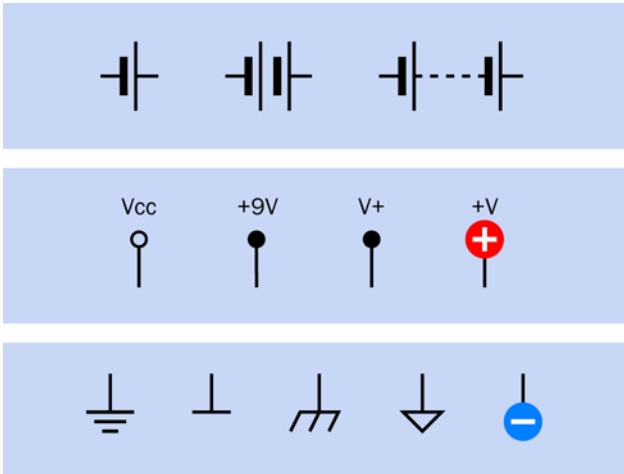

Figure 2-42 Various ways to show positive and negative DC power in a circuit.
2. Power Supply. The power supply for a DC (direct-current) circuit can be indicated in several ways. The top section of Figure 2-42 shows symbols for a battery. A short line indicates the negative end, while a longer line indicates the positive end. Traditionally, a single pair of lines represented a single 1.5-volt cell, two pairs indicated a 3-volt cell, and so on. But when circuits used high voltage with vacuum tubes, the person drawing the schematic would usually show a dashed line between cells instead of drawing dozens of them in a row.
A battery symbol may still be used in a simple schematic, but more often positive and negative DC power is indicated by separate symbols, shown in the center section and the bottom section of Figure 2-42. Positive is applied in one location of a circuit labelled V_{cc} , V_{CC} , or $V+$, or $+V$, or $+V$ with a number added to indicate the
The negative side of the power supply can be shown with any of the symbols in the bottom section of Figure 2-42. It may be referred to as “negative ground” or simply “ground.” Because many parts of a circuit may share a negative potential, multiple ground symbols may be found scattered around a schematic. This is more convenient than drawing lines linking them all together.